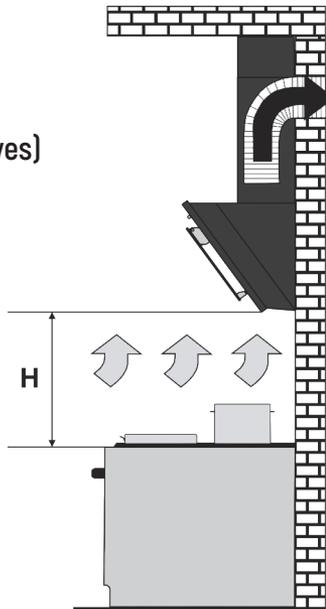

Fig. 1
air exhaust with corrugated aluminium/plastic air ducts (\varnothing 150 mm or 120 mm) into a stationary kitchen air shaft (chimney) (Fig. 1);
1.11 Caution! Install the hood on a wall at 650-750 mm above an electric stove. As for a gas stove, install the appliance at 750-850 mm above a cooktop (Fig. 1).
4.5 When the cooker hood is installed above a stove at appropriate **installation height H (Fig. 1)** use an air **duct Ø150 / Ø120 mm** to exhaust air into a chimney. Lesser diameter will cause an additional resistance to air leading to increased noise, vibration and motor overheating.
- air exhaust into a kitchen chimney (Fig. 1);